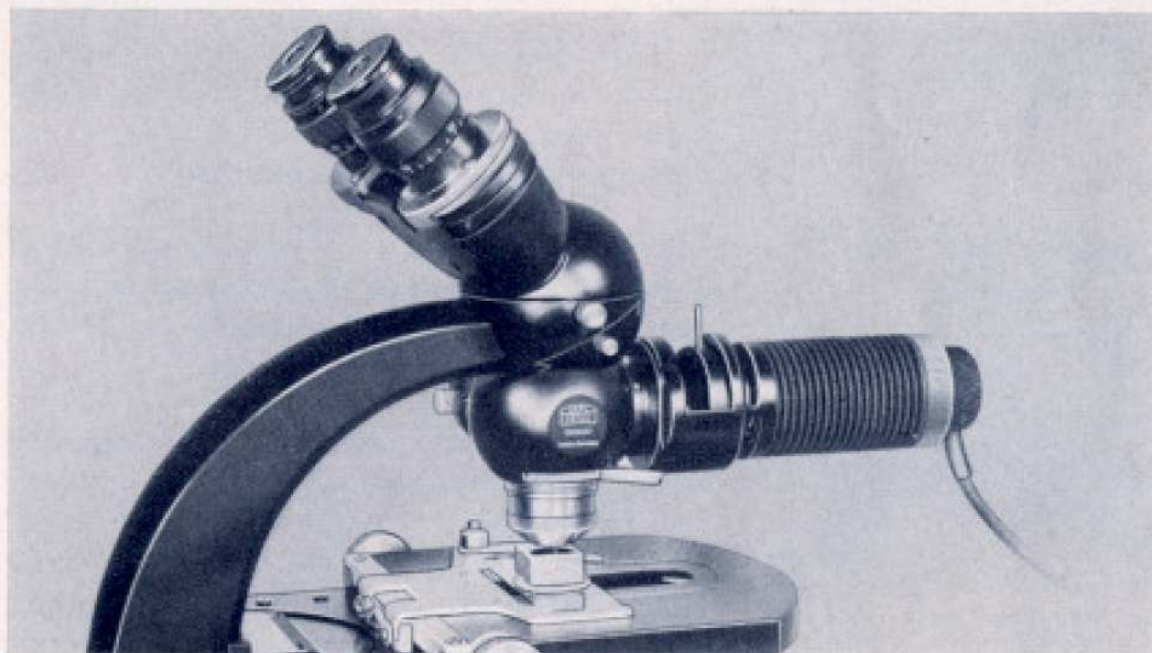

Fig. 6: Epi-condenser 11 A
Two spring clips hold the microscope slide in position on the fixed rectangular stage (60). This stage frequently is supplemented by an attachable mechanical stage (see Fig. 6).